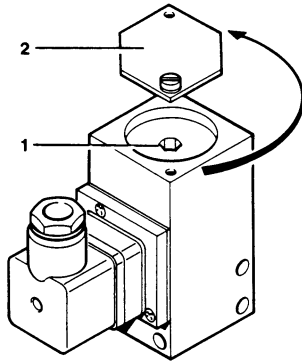

Abb. 61 Final pressure switch
In case of readjustment becoming necessary, open cover (2, Abb. 61). Adjust screw (1) to the required pressure using a 6 mm allen key.